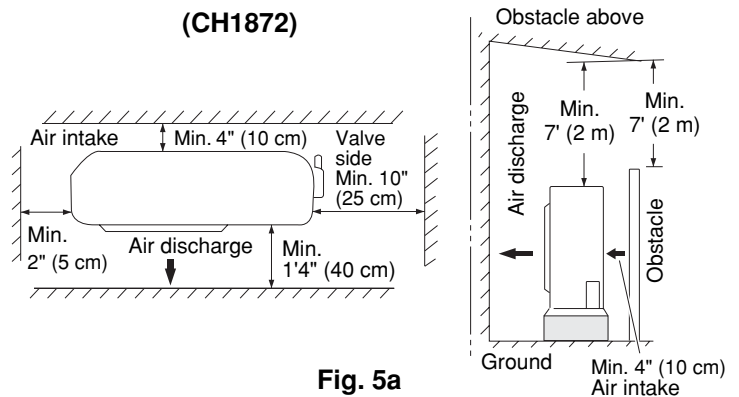

Fig. 5a
- allow enough room around the unit for air intake/exhaust and possible maintenance. (Fig. 5a or 5b)